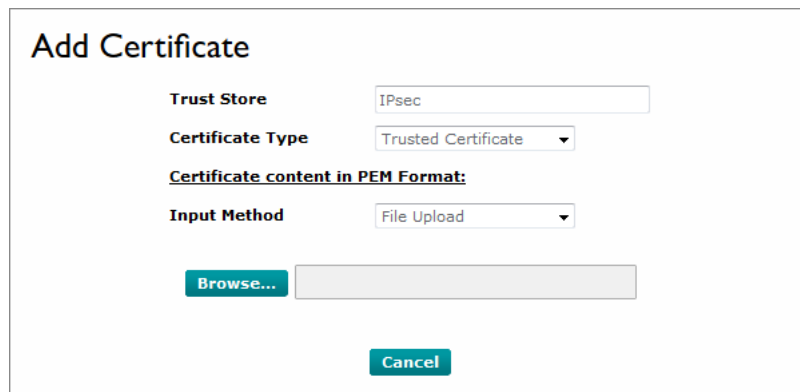

Figure 3-28 WBM: “Certificate Authentication” page, “TrustStores” tab, “Add Certificate” dialog, File Upload
- ⇒ The “Add Certificate” dialog opens (Figure 3-28).